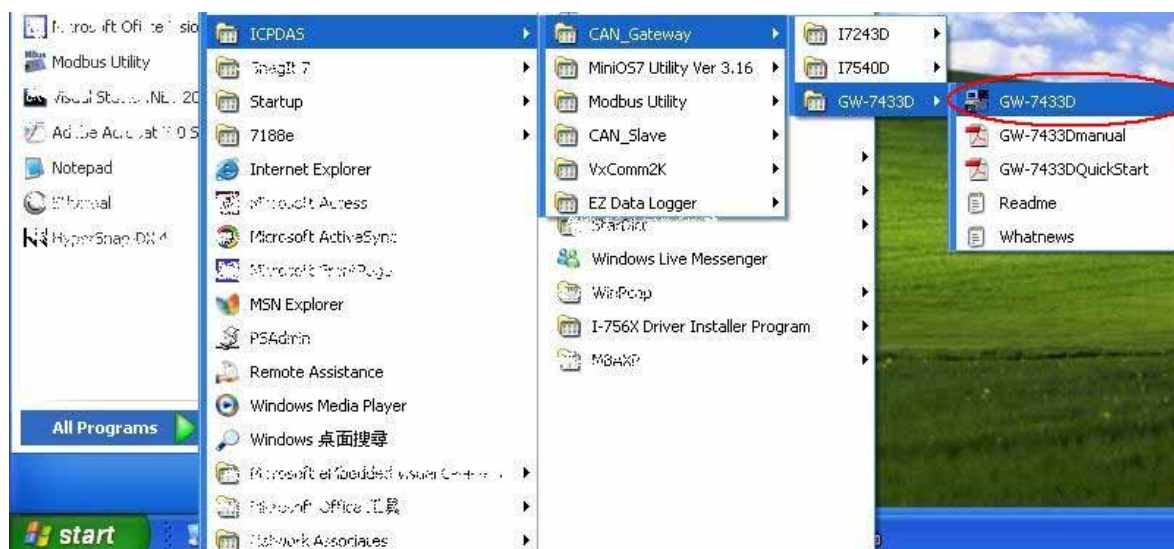

Figure 5-6: The “GW-7433D Utility“ path
Step 7: After finishing the installation of the I-7243D Utility, users can find it as shown in figure 5-6.